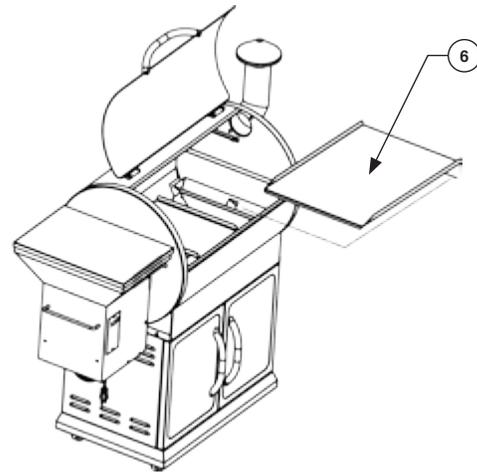

FIG 14
Position the Heat Baffle (6) over the Firepot. The notched legs of the Heat Baffle should be facing downward and to the right to fit onto the locating brackets so that the grease can flow into the Grease Drain Tube. As shown in FIG 14.